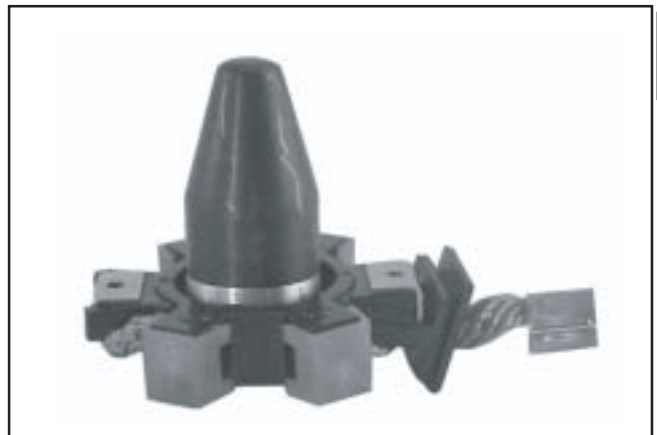

Figure 8-35. Brush Installation Tool with Extension.
- Install the brush springs and snap on the four retainer caps. See Figure 8-35.